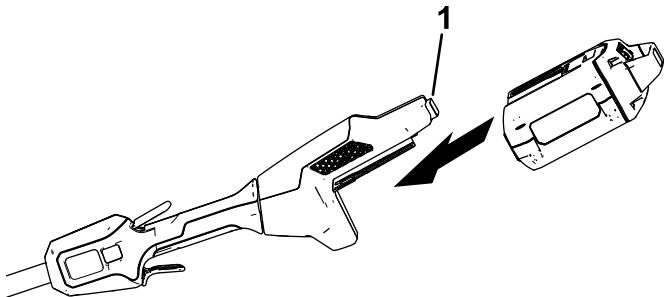

Figure 9
2. Align the cavity in the battery pack with the tongue on the handle housing (Figure 9).
3. Push the battery pack into the handle until the battery locks into the latch (Figure 9).